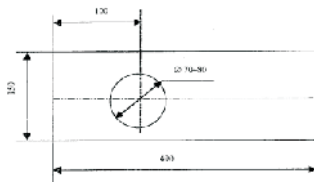

Figure 1
- ◆ Lift the bottom plate, unscrew the two (2) M 10 bolts under the bottom plate with a spanner, to separate the hardness tester from bottom plate, all steps shall be done in a safe manner.
- ◆ After unpacking, the tester shall be placed on a stable bench with levelness deviation less than 1 mm/m. A hole shall be drilled at an appropriate location on the bench (see figure 1) to enable the lifting screw to operate properly.